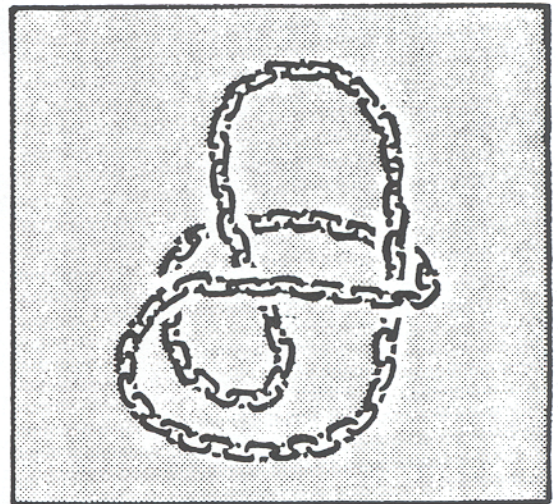

FIGURE 47
- (1)- Form a loop with the chain (see figure 47) and put it over the guy anchor's ramming top (48/1).
- (2)- Lay the chain(48/2) over the lever tube (48/4) hung into the trestle (48/3).
- (3)- Pull out the guy anchor by stressing the lever tube's end.